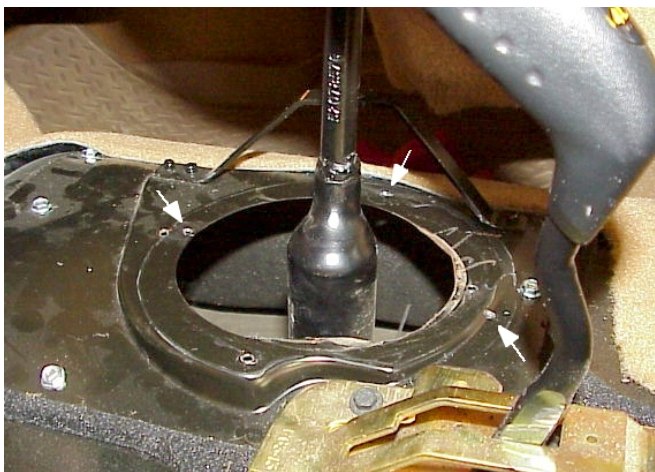

Figure 16
8. ☐ Rotate the boot clockwise to match the increased floor pan opening. Mark and drill the three new mounting holes. See figure 16.